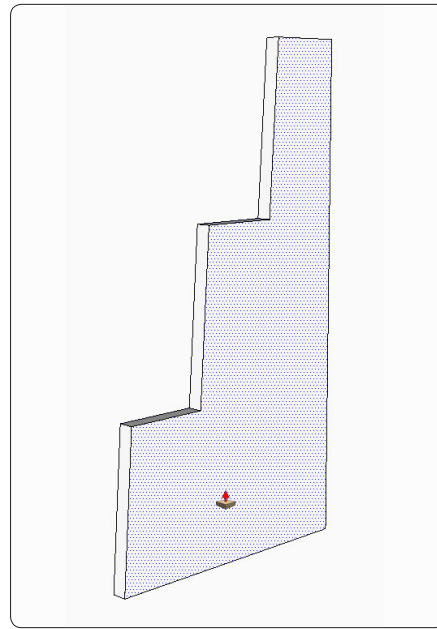

Figure 8. Erase the waste, then give the component the proper thickness.
Step 3 Use the Eraser Tool to delete the waste, then use the Push/Pull Tool to give the side the proper thickness (Figure 8). If you haven't already done so, make this piece a component named Side.